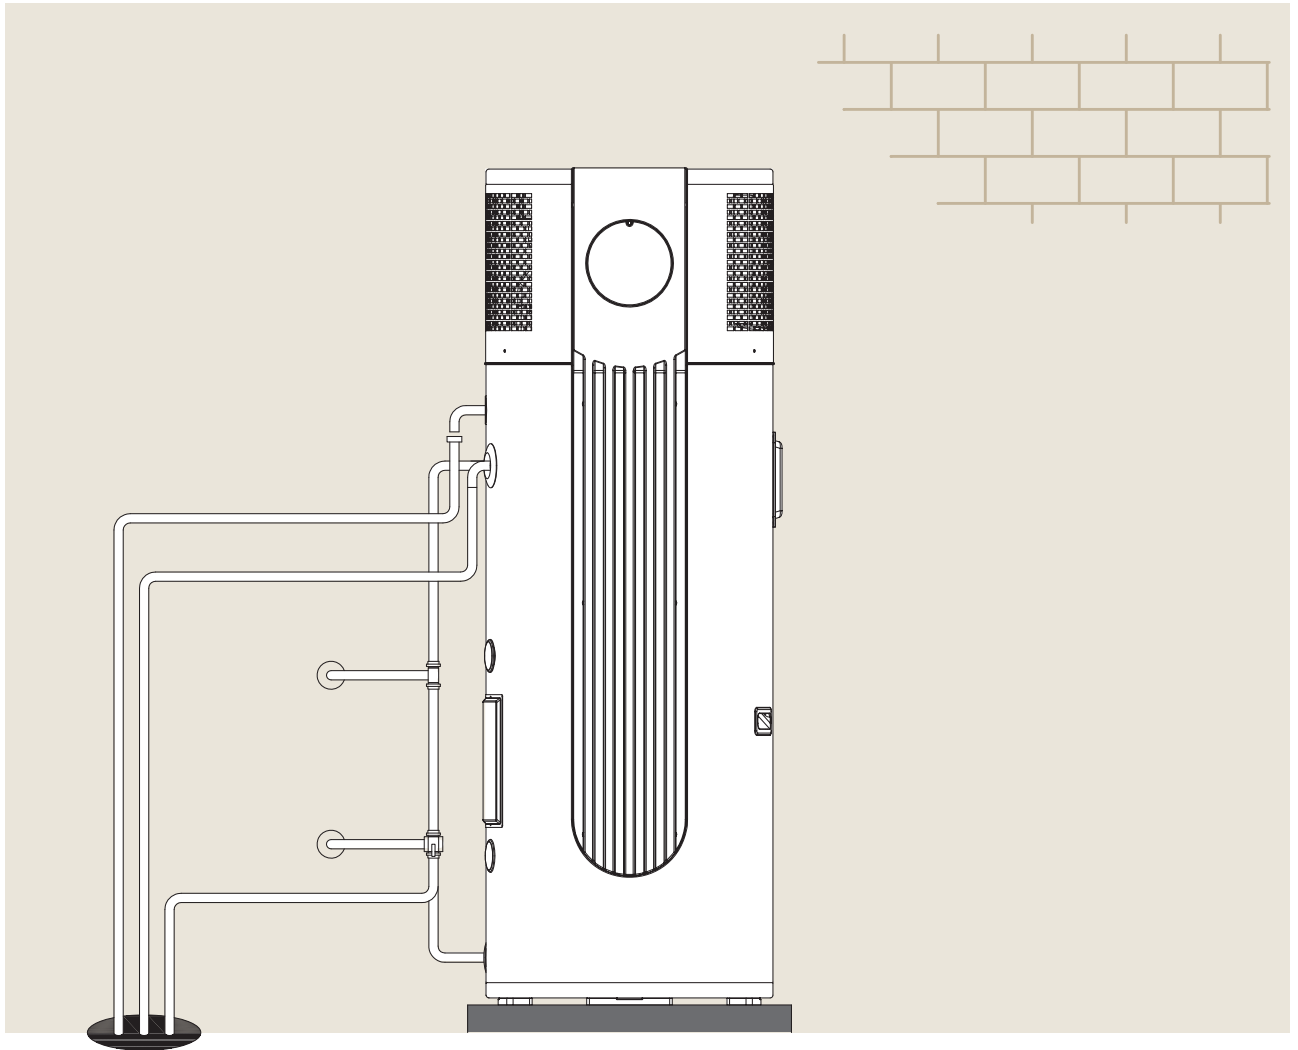

**Figure 8**
- Avoid placing the system in locations with multiple walls or structures (i.e., consult with Figure 7 and Figure 8).
- The safety relief valve on the tank, the PTRV (item #4 in figure 8), needs to be opened every six months to ensure it works correctly and is not blocked. Failure to do so may void the warranty.
- The process of heat extraction from the atmosphere through evaporator coils results in the production of water in the form of condensation. To collect this water by-product a Condensate Tray is located on top of the water storage tank. Overflow from this tray runs out through the Condensate Drain (item #3 in figure 8). The systems condensate drain is connected by a 1/2-inch copper elbow. Drain the condensate from the elbow to the nearest drainage using copper, PVC, PPR, or PEX pipes. If not drained properly, the condensate line will attract termites as well produce algae and moss growth. The Condensate line should be free of kinks and as the water is gravity fed, this should be vertical to ensure the free flow of water. Connecting any pipe directly to the condensate line without an air gap will void warranties.